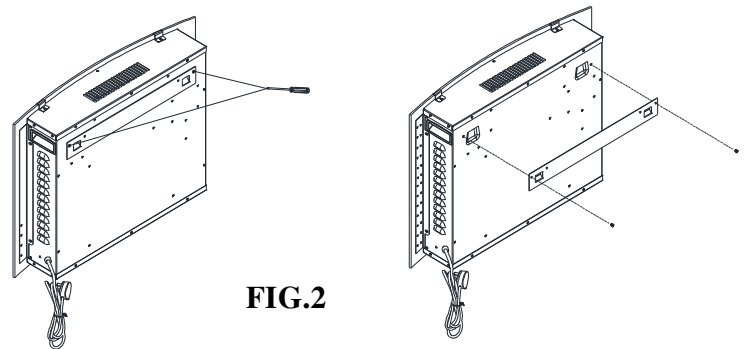

FIG.2
3. Use screwdriver (not supplied) to loosen the 2 screws and remove the hanger as shown in figure 2.